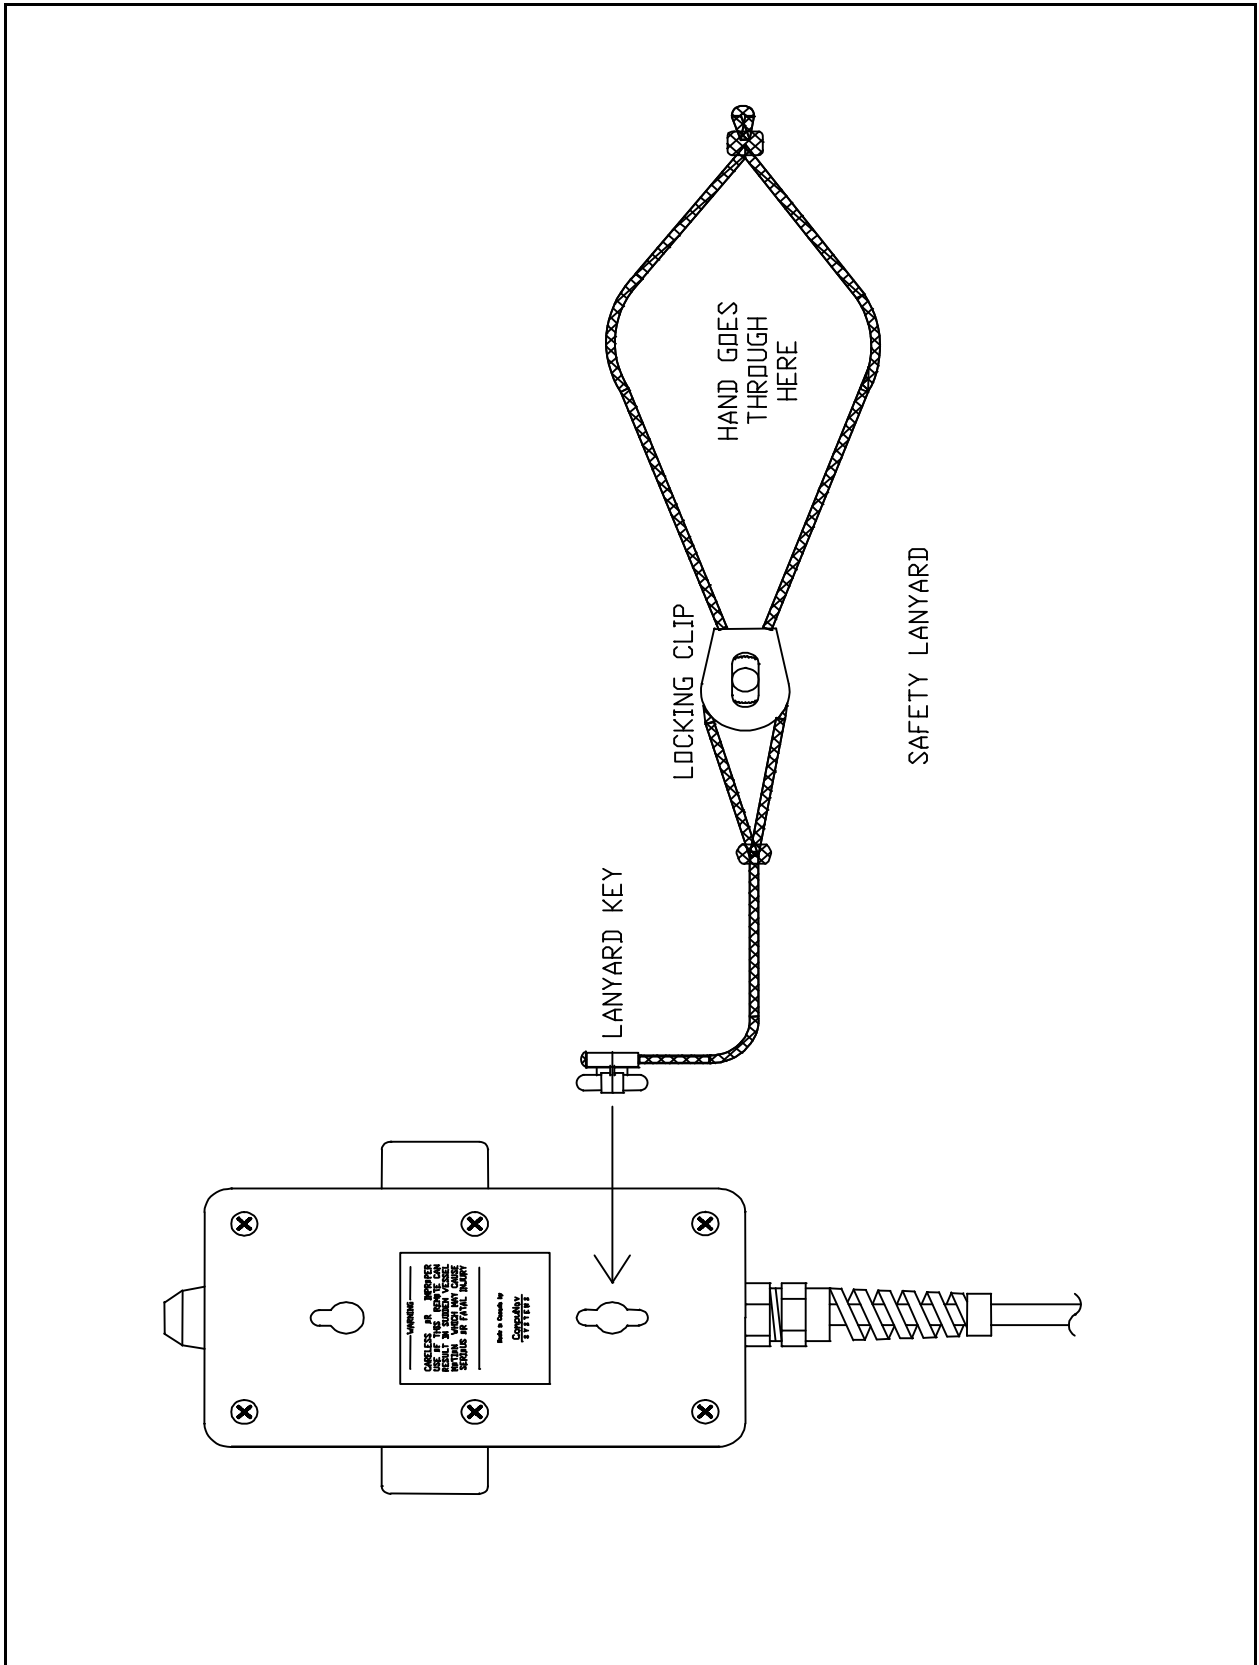

Figure 3 - SAFETY LANYARD INSERTION
2. **Problems with the engine control portion of the remote.** Connect the remote to another input in the engine actuator. If the problem disappears, the problem is most likely in the engine actuator. Contact the engine control dealer or manufacturer for advice. If the problem remains, the problem is most likely in the remote. **MAKE SURE THE LANYARD KEY IS CORRECTLY INSERTED INTO THE REMOTE CONTROL** (see Figure 3). Recheck all of the wiring in the Remote distribution box, particularly if the cable connecting the remote to the distribution box has been removed and reinserted into that distribution box. Contact your dealer or ComNav Marine for advice.